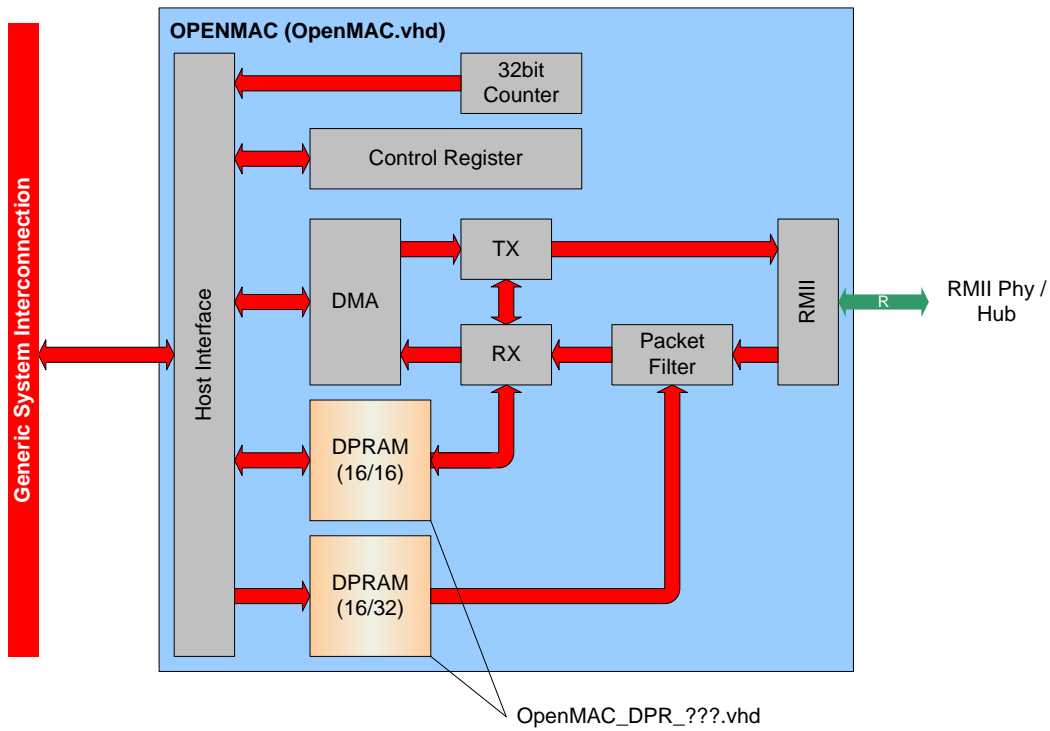

Fig. 1: Block diagram openMAC
This chapter gives an overview on the MAC's features and itself. At Fig. 1 you can see the openMAC's structure (OpenMAC.vhd), ports to a processor bus and to the Reduced Media Independent Interface (RMII). The Mac includes a full transmitter (TX) and receiver (RX) – therefore its full-duplex ability is enabled. All frames will be fetched or stored from or into a memory via the included DMA. The Mac's descriptors are located in a Dual Port Ram (DPR, 16/16) to set the frame buffer's locations. This memory is accessible over a memory mapped slave interface.